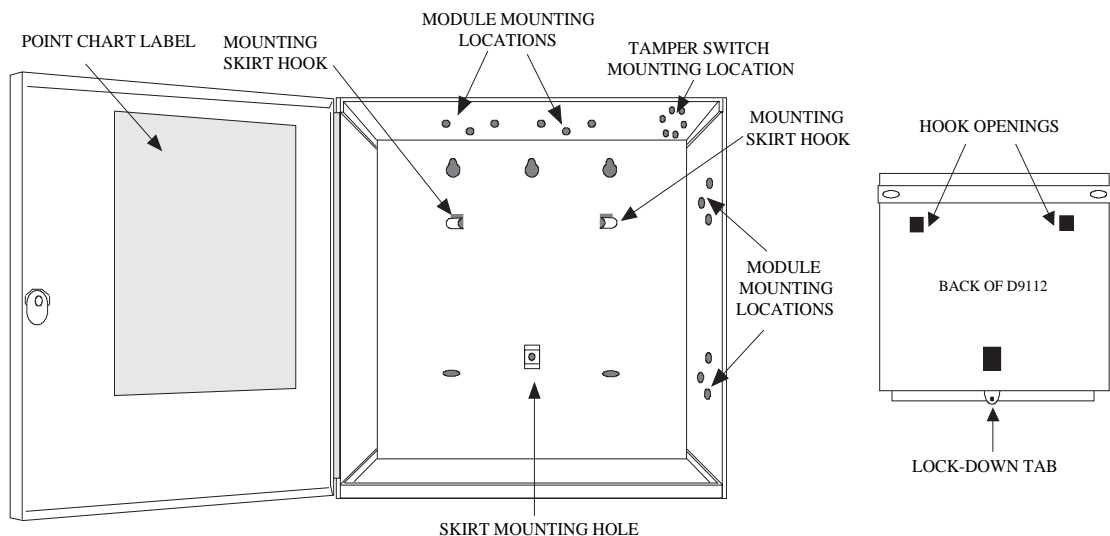

Figure 2: Enclosure Mounting
Mount the enclosure in the desired location. Be certain to use all five mounting holes. See Figure 2.
1. Place the D9112 assembly over the inside back of the enclosure, aligning the large rectangular openings of the mounting skirt with the mounting hooks of the enclosure. Slide the D9112 down so it hangs on the hooks. See Figure 2.
Use the program record sheet to gather the information you need to fill out the point chart. Install the label on the enclosure door as shown in figure 2. To avoid smearing your entries on the chart, use the label's peel off backing to press the label in place.